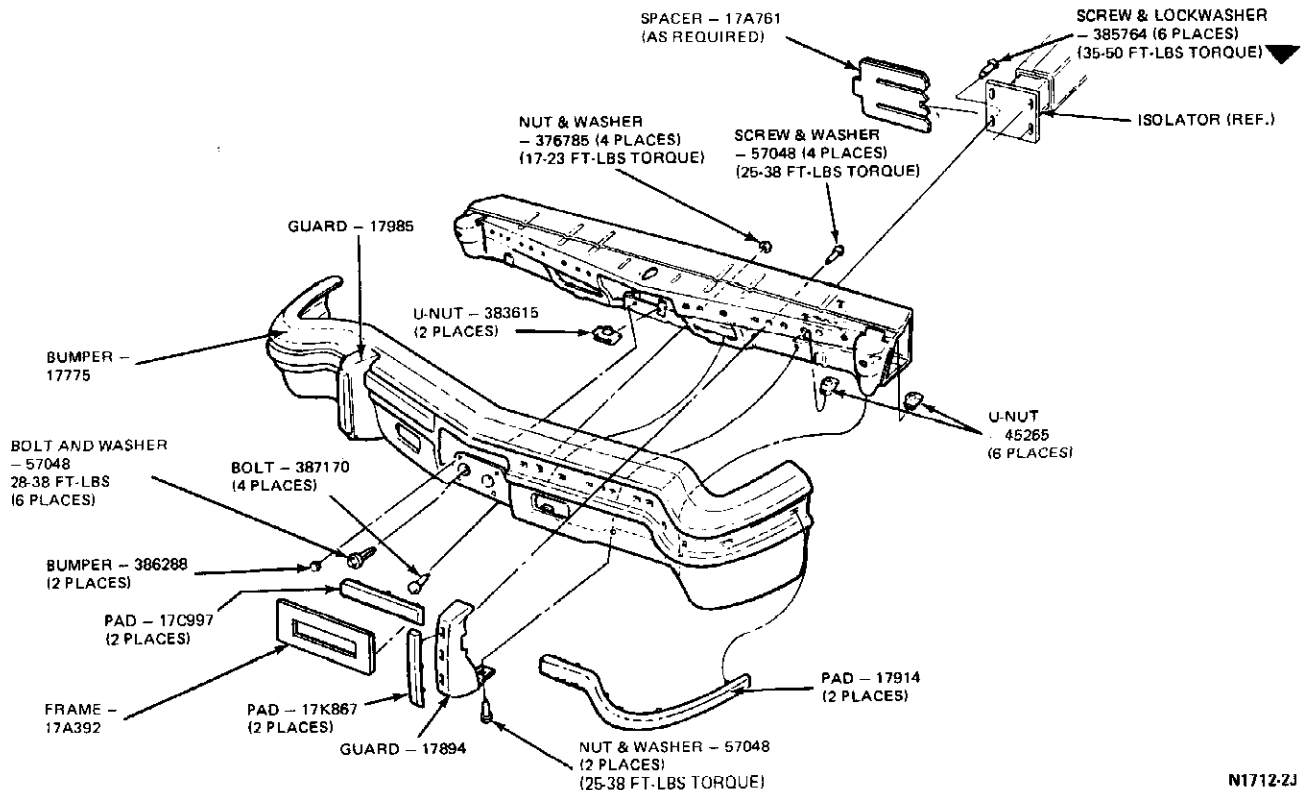

FIG. 3 Rear Bumper Installation—Continental Mark V
2. Remove the reinforcement-to-bumper attaching bolts, and separate the reinforcement from the bumper (Fig. 3).
3. If the bumper is to be replaced, transfer the bumper guards and the pads to the new bumper (Fig. 3).
1. Position the reinforcement to the bumper, and install fasteners (Fig. 3). Install the bumper guards to the bumper. Tighten the fasteners to 25-38 ft-lbs torque.
2. Position the bumper and reinforcement to the isolator with the shim(s), if required, between the isolator and reinforcement (Fig. 3). Install the three attaching bolts at each isolator.